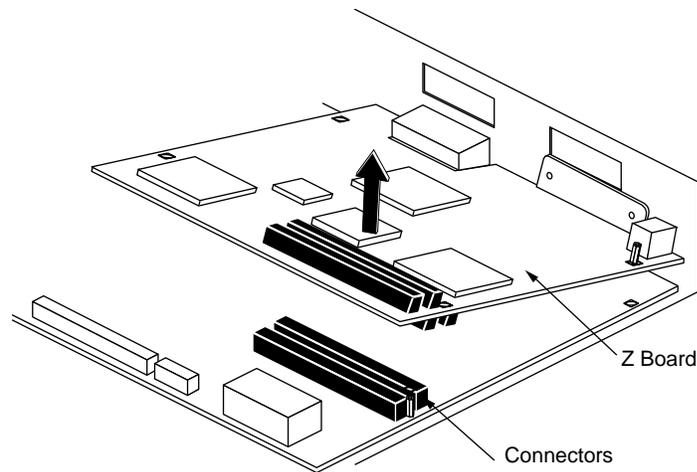

Figure 2-9 Disconnecting the Z Board From the System Board
6. Disconnect the Z board from the system board, by grasping the board firmly on the side close to the system disk drive and pulling up to disconnect the two connectors underneath the board. See Figure 2-9.